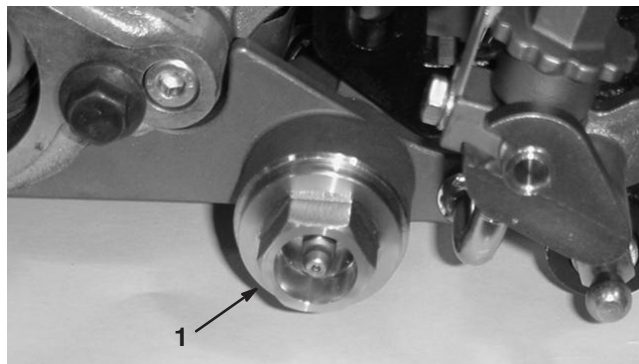

Figure 11
21. Apply Loctite to the threads on the cap plug (Fig. 11). Thread the cap plug into the groomer housing. Torque the cap plug to 60–80 ft.-lbs.